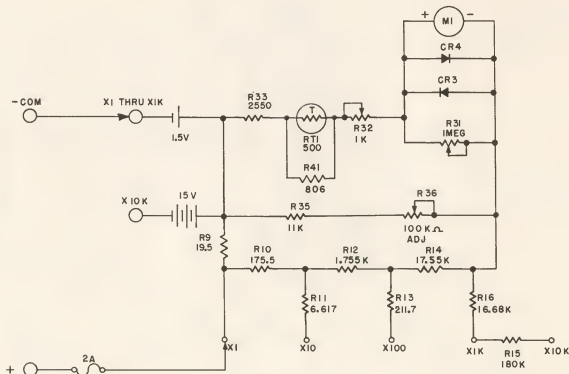

FIGURE 4. OHMMETER CIRCUIT
**OHMMETER:** A conventional series ohmmeter circuit is used as illustrated in figure 4. The circuit is designed for a center scale value of 20 ohms on the (x 1) range. Ranges are changed by altering the internal resistance and sensitivity for the (x 1) through (x 1000) ranges. On the (x 10,000) ranges, the internal resistance